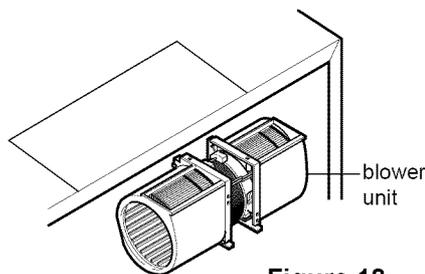

Figure 18
3. Rotate blower unit 90° so that the exhaust ports face the top of the cabinet. See Figure 18.